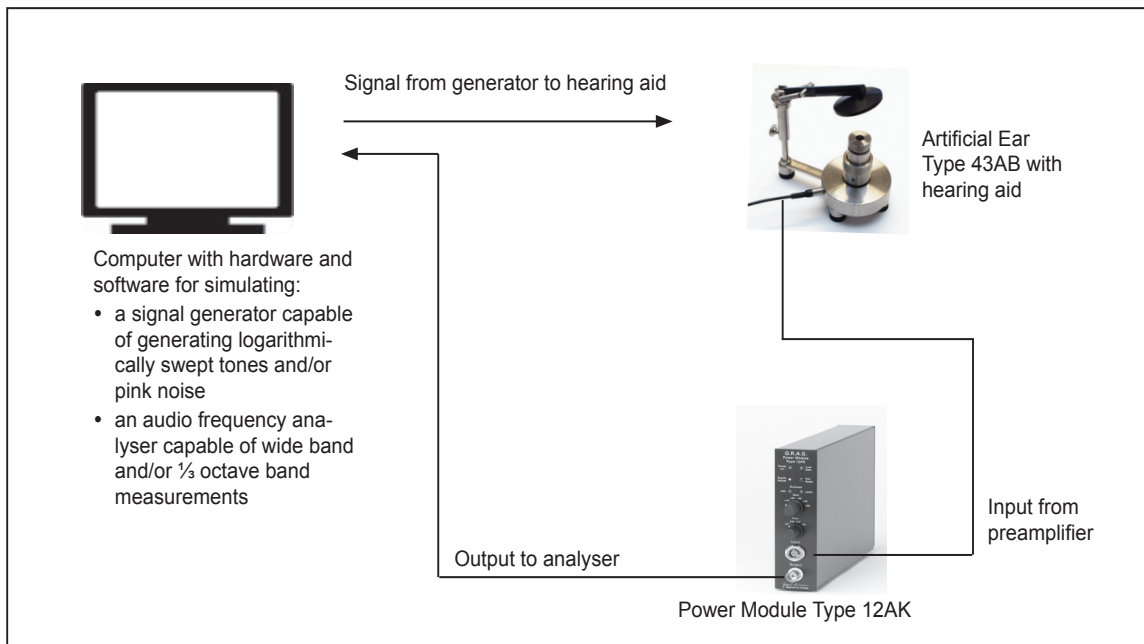

Fig. 2.2 Block diagram of a complete set-up for making tests
Items 3 and 4 could be combined in the same unit, e.g. a computer fitted with suitable hardware and software for A/D and D/A conversions in order to simulate both a signal generator and an analyser. Fig. 2.2 shows a block diagram of a possible set-up for making tests.
- 1) Setting up the test jig, e.g. as shown in Fig. 2.2